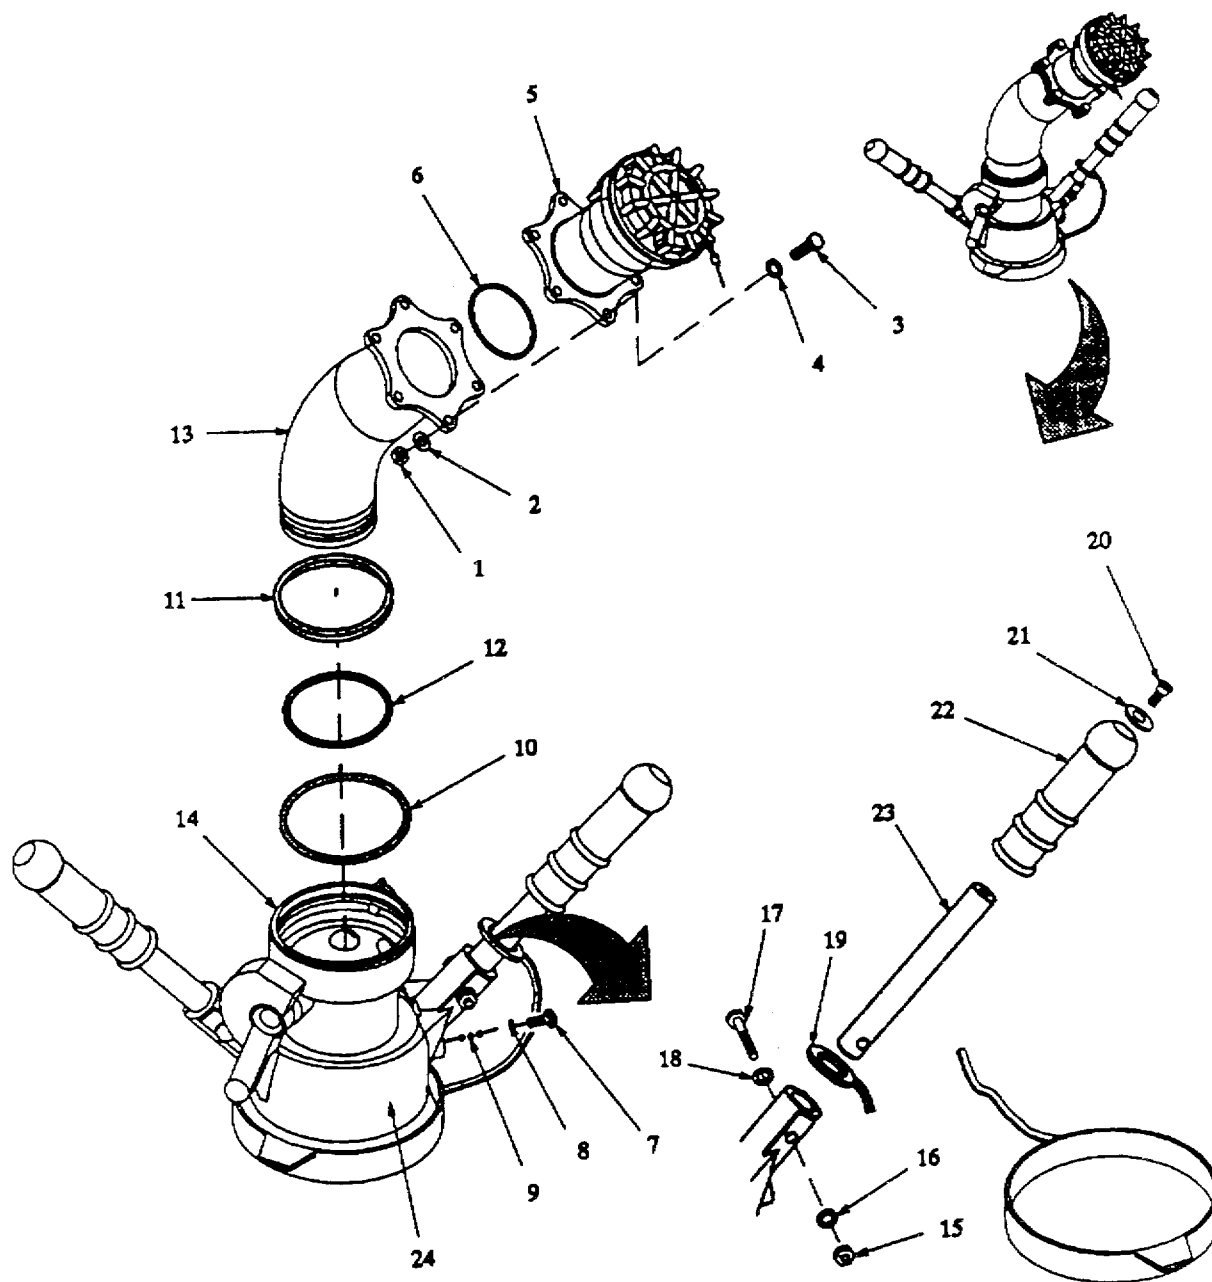

Figure 4-1. Pressure Fuel Servicing Nozzle (D1) Repair.
- a. Disassembly. Refer to figure 4-1.
- (1) Remove six self locking nuts (1), flat washers (2), screws (3), and flat washers (4).
- (2) Separate coupling adapter (5) from inlet elbow (13), and remove preformed packing (6).
- (3) Remove screw (7) and attached preformed packing (8) from body (14).
- (4) Position body (14) so that opening for balls (9) is pointing down.
- (5) Rotate inlet elbow (13) back and forth on body (14) until 39 balls (9) are removed.
**c. Inspection. Refer to figure 4-1.**
- (1) Inspect inlet elbow (13) for cracks and corrosion. Check for scratches and abrasion at all sealing surfaces.
- (2) Inspect body (14) for cracks, corrosion and damaged or missing parts.
- (3) Inspect coupling adapter (5) for cracks, missing components and corrosion.
- (4) Inspect collar (24) for cracks and corrosion.
**d. Repair. Replace damaged or defective components. Replace all mandatory replacement parts. Repair non-valved dry break coupling on coupling adapter (para 4-14).****e. Assembly. Refer to figure 4-1.****NOTE**
- (1) Place handle (23) in vise.
- (2) Push grip (22) onto handle (23).
- (3) Install flat washer (21) and self locking socket screw (20) in grip (22).
- (4) Slide cap (19) onto handle (23).
- (5) Remove handle (23) from vise and position in collar (24).
- (6) Install flat washer (18), screw (17), flat washer (16) and self locking nut (15) in collar (24).
- (7) Repeat steps (1) through (6), except step (4), for other handle.
- (8) Apply a light coat of silicone compound to preformed packings (6, 8, 10 and 12) to aid installation.